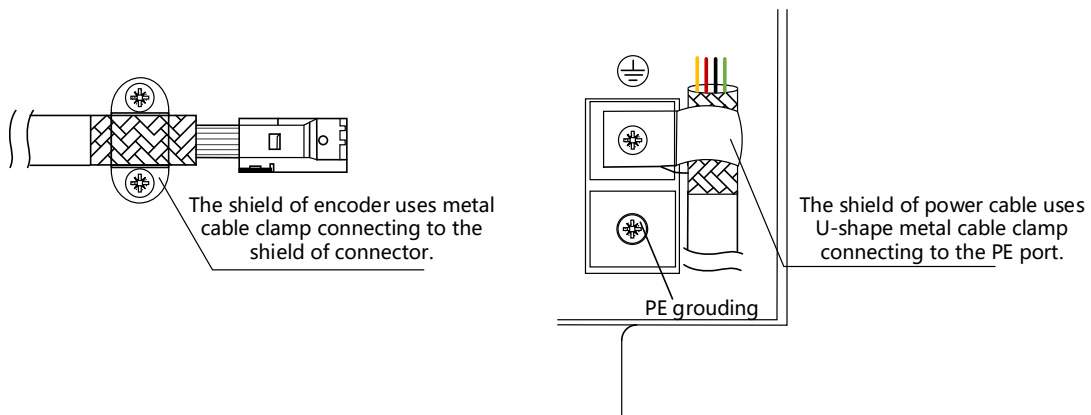
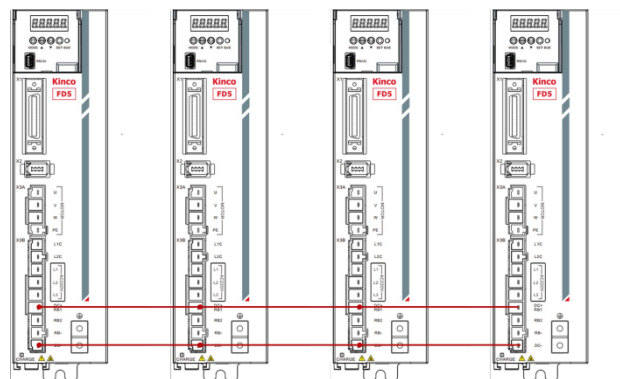

Figure 3-8 Grounding measurement for shield
Figure3-10 FD435/FD625 DC bus
- Figure 3-8 shows the X1 wiring of the default IO function of the FD5-LA/CA drive, and Figure 3-10 shows the X1 wiring of the default IO function of the FD5-PA drive. , More IO functions could be set by the digital panel or host computer debugging software. Check Chapter 5 5.5 for details of IO functions.